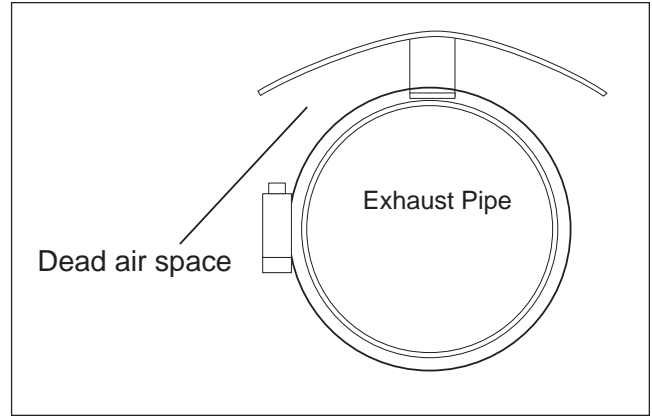

Figure 3
5. Bend the heat shield to form it around the tail pipe. Be sure to maintain a dead air space of 1/2"-1" between the tail pipe and the heat shield (Figure 3).